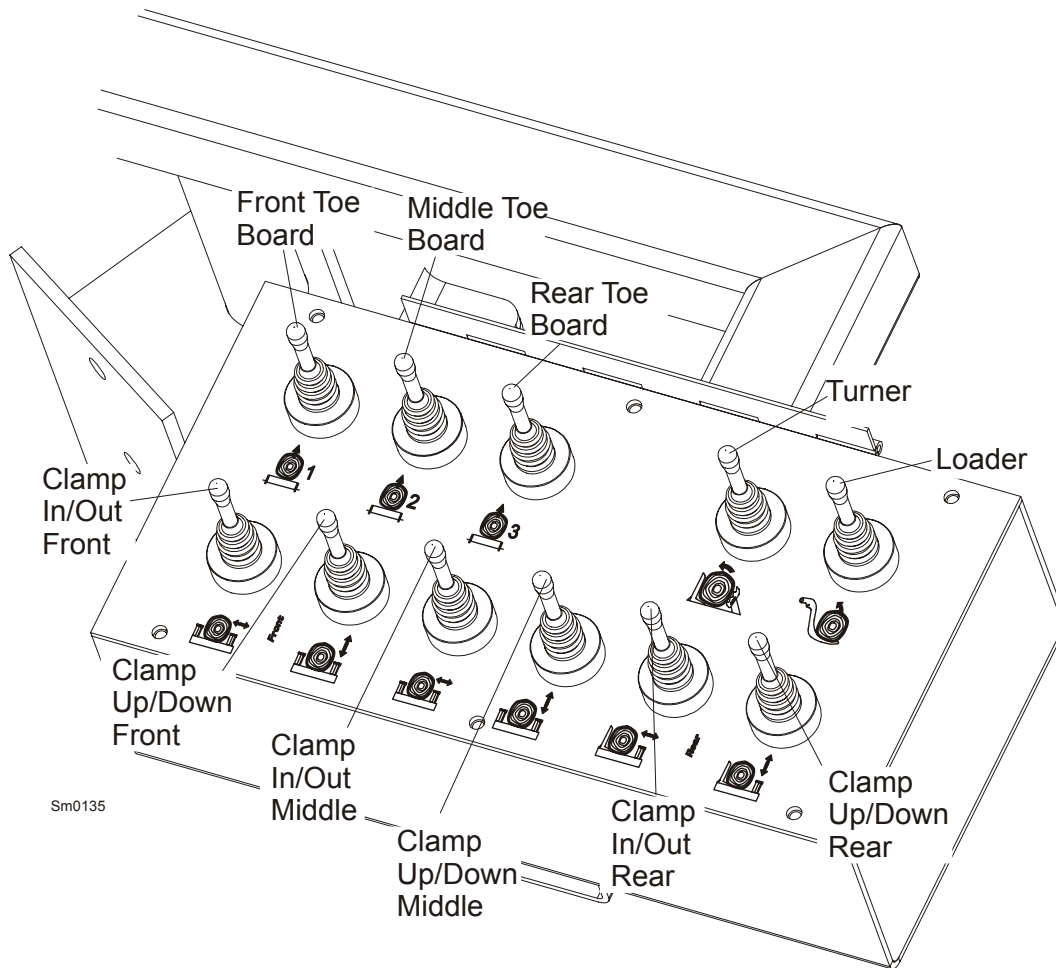

FIG. 2-9
**See Figure 2-9.** Hydraulic units have six control levers to load, clamp, turn and level logs